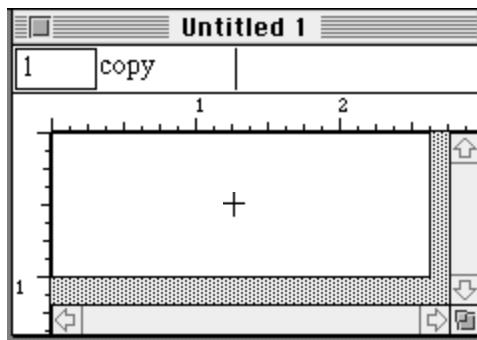

Figure 2-5 Bar Code Tool Pointer
5. The mouse pointer becomes a “+” when it’s placed anywhere in the work area. See Figure 2-5.